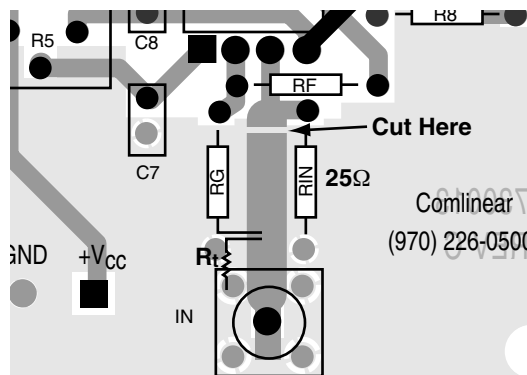

Figure 3: Modifications for Inverting Gains (CLC730013 board shown)
1. Cut the input trace as shown in Figure 3
3. Terminate R_G at the input trace instead of ground (See Figure 3)